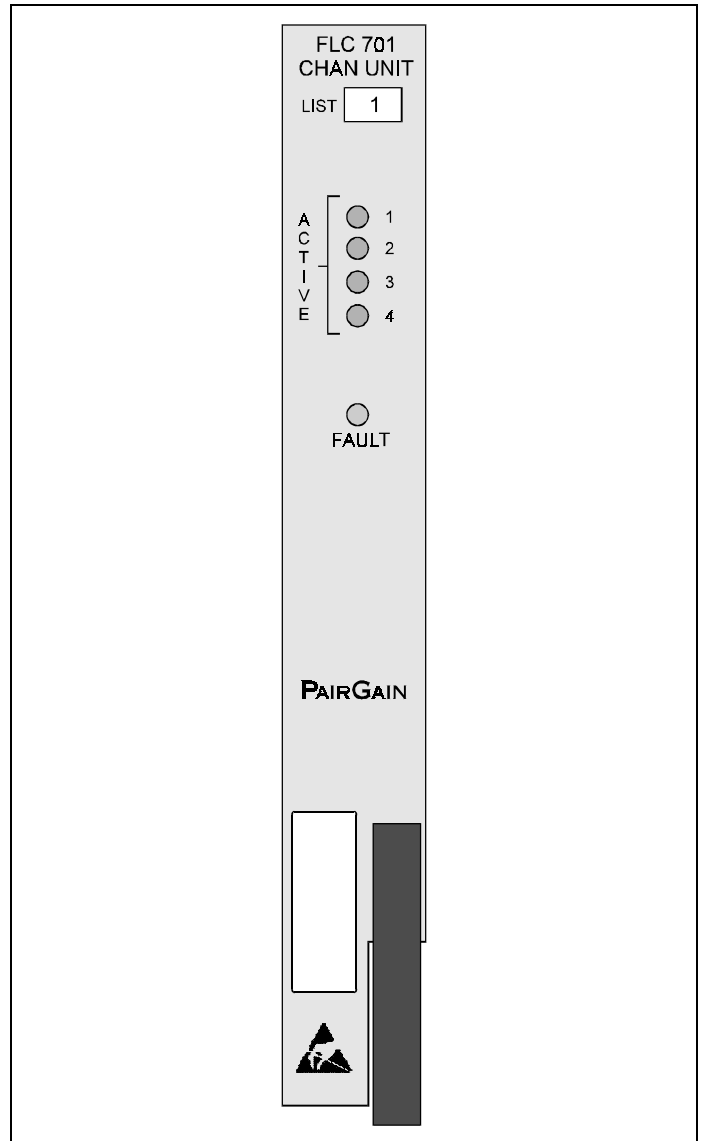

Figure 1. FLC-701 COT Channel Unit, List 1, Front Panel. The PairGain FLC-701 provides four POTS interfaces between the Central Office and PG-Flex.
7.01 The front panel of the FLC-701 Channel Unit contains the following indicators (see Figure 1):